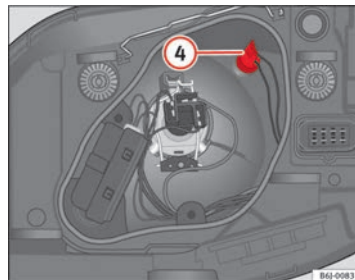

Fig. 146 Side lights
- Remove the bulb holder ④ ⇒ fig. 146 outwards.